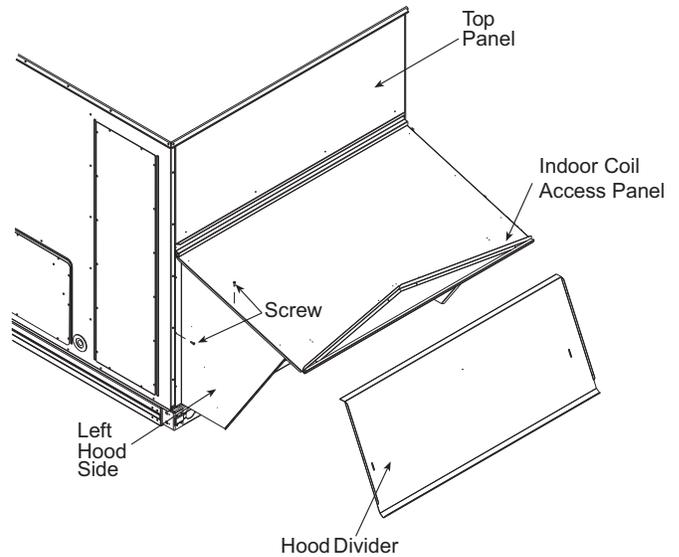

Fig. 21 – Economizer Hood Construction
2. Swing out indoor coil access panel and insert the hood sides under the panel (hood top). Be careful not to lift the panel too far as it might fall out. Use the screws provided to attach the hood sides to the hood top and to attach the hood sides to the unit. See Fig. 21.
4. Insert the hood divider between the hood sides. See Fig. 21 and 22 for construction and installation. Secure hood divider with 3 screws on each hood side. The hood divider is also used as the bottom filter rack for the aluminum filter.